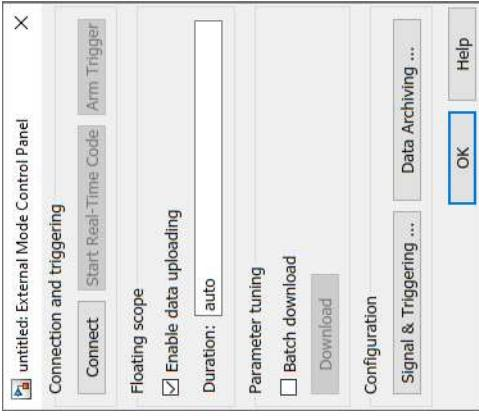

Figure 11-4 “External Mode Control Panel” window in MATLAB Simulink
1. In MATLAB Simulink: via the “External Mode Control Panel” window (see Figure 11-4).